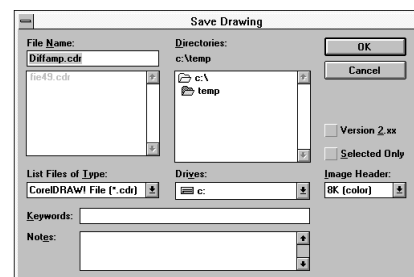

Fig. 27
72. The drawing is now complete. We need to now save the drawing, to do so, click the mouse once on the 'File' menu and then highlight the 'Save as' sub-menu. The SAVE Drawing screen will now appear. Click the mouse on the File Name box and type "Diffamp.cdr". Choose the drive and directory you wish to save your drawing to , then click the mouse on OK. See **Figure 27** for reference.